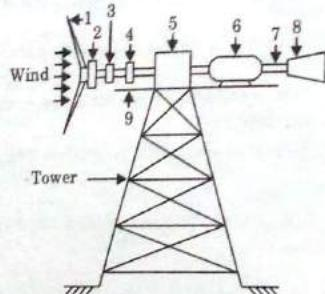

Fig. 4.8.1. Wind generator.
1. The components of a horizontal axis wind turbine is shown in Fig. 4.8.1.